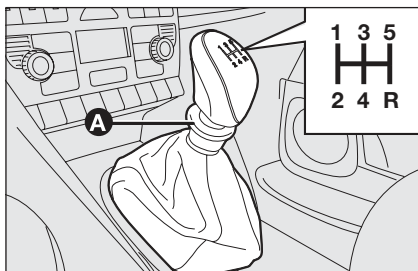

fig. 2
- lift the sliding ring **A**-fig. 2 under the knob and shift the lever to the right and back.